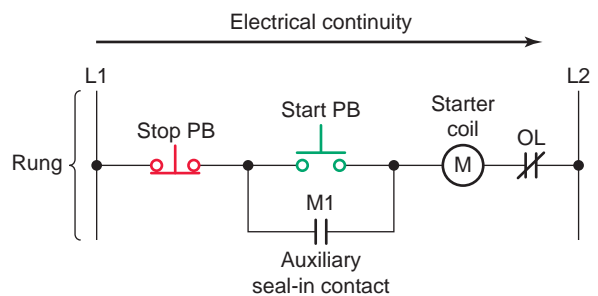

Figure 10-47 Hard-wired start/stop circuit.
Figure 10-47 shows the traditional electrical diagram for a hard-wired motor start/stop circuit. The diagram consists of two vertical supply lines with a single rung. Every rung contains at least one load device that is controlled, as well as the conditions that control the device. The rung is said to have electrical continuity whenever a current path is established between L1 and L2. Pressing the start push button results in electrical continuity to energize the starter coil (M) and close the seal-in contact (M1). After the start button is released, electrical continuity is maintained by the seal-in contact. When the stop push button is pressed, electrical continuity is lost and the starter coil deenergizes.